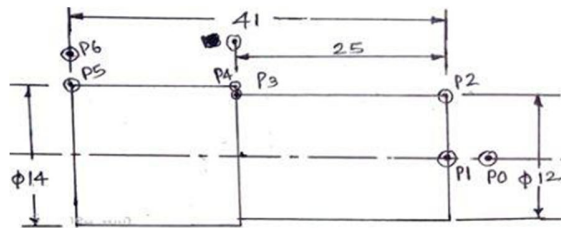

Figure No. 1
d) Develop full G and M code manual part program of CNC lathe for the component shown in Fig. No. 1 using word address format (WAF).